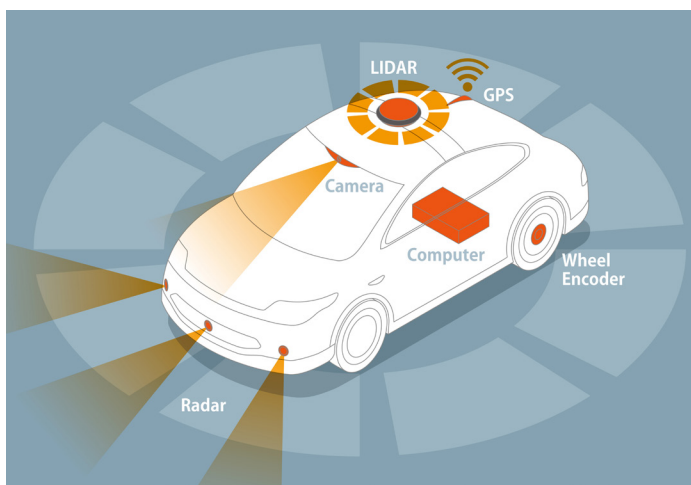
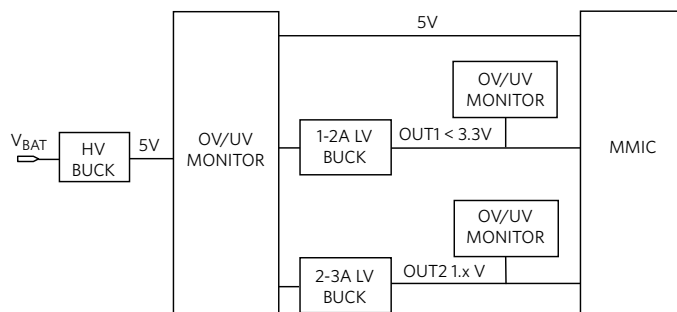
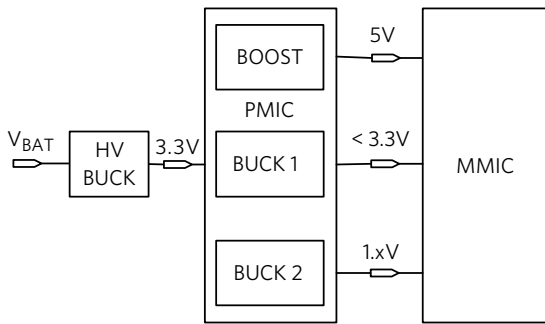

Figure 1. Smart Car Loaded With ADAS Sensors
Figure 2. Discrete ADAS Radar Power Management ECU
Figure 3. ADAS Radar PMIC
Advanced driver assistance systems (ADAS) are one of the fastest-growing segments in automotive electronics (Figure 1). The smart car is loaded with ADAS electronic control units (ECUs), each taking power from the car battery. Each ECU supports a specific car function and has its own dedicated power management. With such a high level of variability, using a discrete approach to the ECU's power management implementation might seem like the only option; that is, one ad-hoc IC for each building block, such as in the typical system shown in Figure 2. However, this approach is incompatible with another important requirement of these ubiquitous devices, specifically small size. This article reviews three very different ECU applications and shows that even when multiple building blocks are required, a tailored integrated approach to power management can easily solve this dilemma.
Every ADAS-compliant subsystem in the car, be it the radar, lidar or camera module, employs a number of voltage regulators, monitors, and watchdog ICs for proper operation. The discrete ADAS radar system in Figure 2 shows six different ICs that implement the power management system for the monolithic microwave IC (MMIC) at the heart of the radar module.
Often the entire module must be housed on a PCB no bigger than 50mm x 50mm, making it very challenging to accommodate all the necessary components. A non-integrated solution like the one in Figure 2 is space-consuming and expensive.
An ideal solution should operate with an input voltage at the lowest battery voltage while withstanding load "dump." Figure 3 shows six chips in Figure 2 that are reduced down to two. The high-voltage (HV) buck converter withstands the load dump and takes the battery voltage down to 3.3V, allowing for cold-crank operation near its output (well below 6V). A high-density, low-voltage PMIC integrates the backend voltage regulators. With this partitioning, the required area can be conveniently split into two chunks, one for the front-end buck converter (HV BUCK) and one for the PMIC, making it easy to "wrap" the power management solution around the signal chain circuitry.